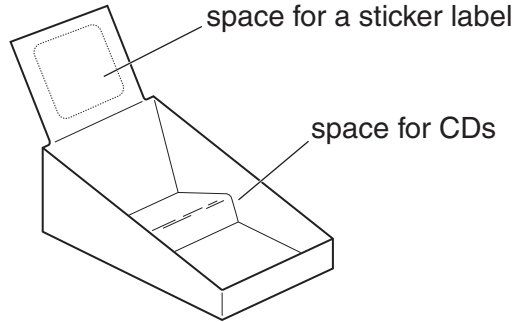

Fig. 7
- 4 Fig. 7 shows a point of sale display for CDs. The point of sale display is made from corriflute sheet.
- (c) The sticker label on the point of sale display in Fig. 7 uses a heat sensitive Smart material. Complete the table below to show the specification for the sticker label.